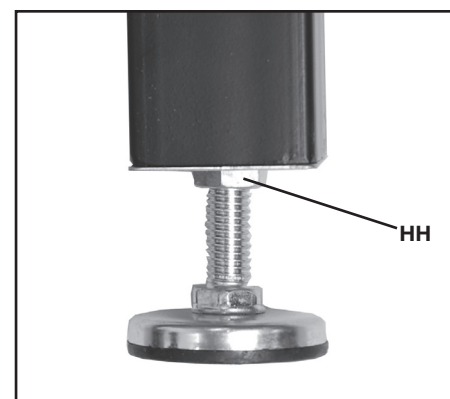

FIG. 14A
Once feet are set, tighten jam nut (HH) Fig. 14A up against leg body.